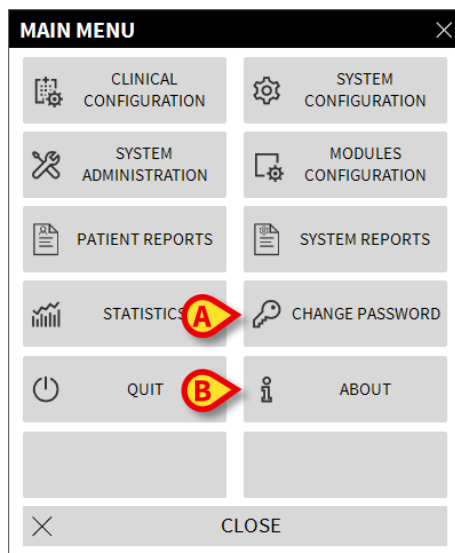
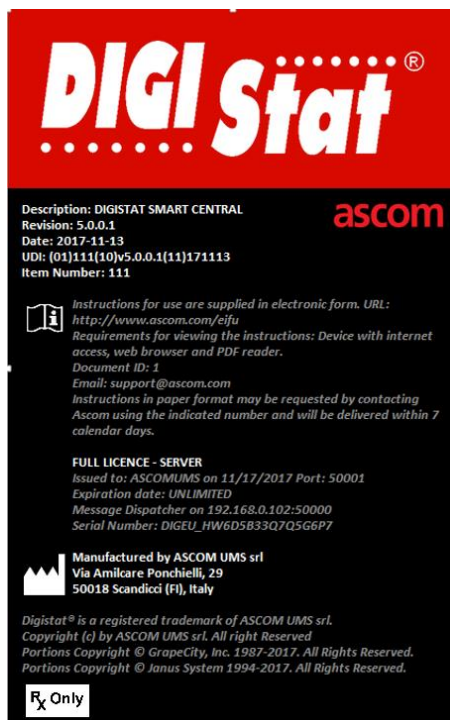

Fig 37
Fig 39
The **Change Password** button on the Digistat Smart Central main menu (Fig 37 **A**) opens a window making it possible to change the password of the user currently logged to the Digistat Smart Central.
- Click the **Change Password** button (Fig 37 **A**). The “Change password” window will open.
The **About** button on the Digistat Smart Central main menu (Fig 37 **B**) displays a window containing information on the Digistat Smart Central version installed and the related licenses (in Fig 39 an example).